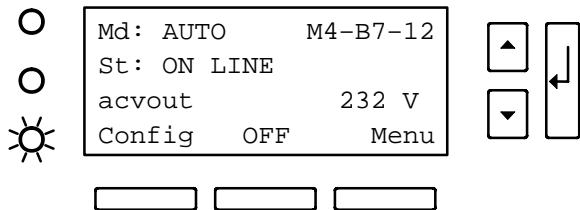

Figure 49. Front Panel Display (Normal Operation)
During normal operation, the display appears as shown in Figure 49. Md: indicates the current UPS operating mode and St: indicates the operational state. The number of power modules (M) and number of battery module strings (B) that are currently online, and the total number of module slots in the cabinet—for example, M4-B7-12—is shown in the upper right corner of the display. (The count of battery strings does not include additional battery strings contained in connected external battery cabinets.)
Operating parameters shown on the third line of the display vary depending on the operating mode. As shown in Figure 49, the UPS output voltage is displayed while the Powerware 9170 UPS operational state is ON LINE.